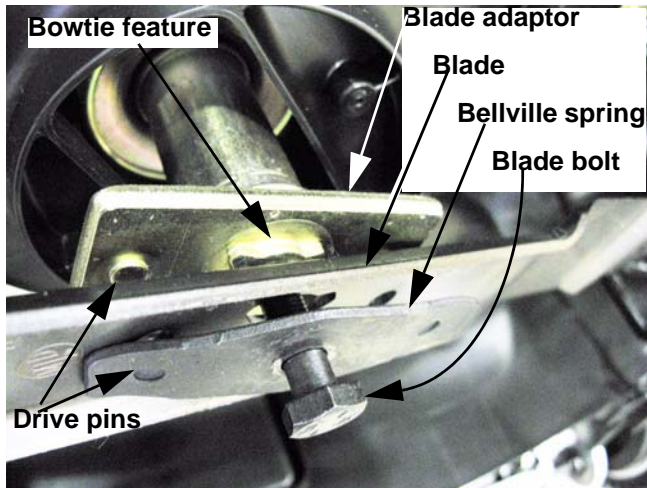

Figure 2.3
8. Check the blade adapter, crankshaft and hardware for damage: See Figure 2.3.